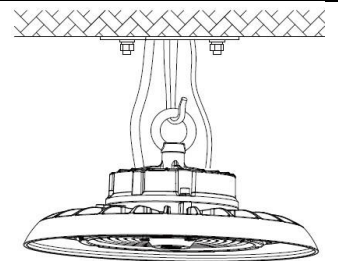

Figure 2
2. Hang the fixture on the ceiling hook or chain (Figure 2).